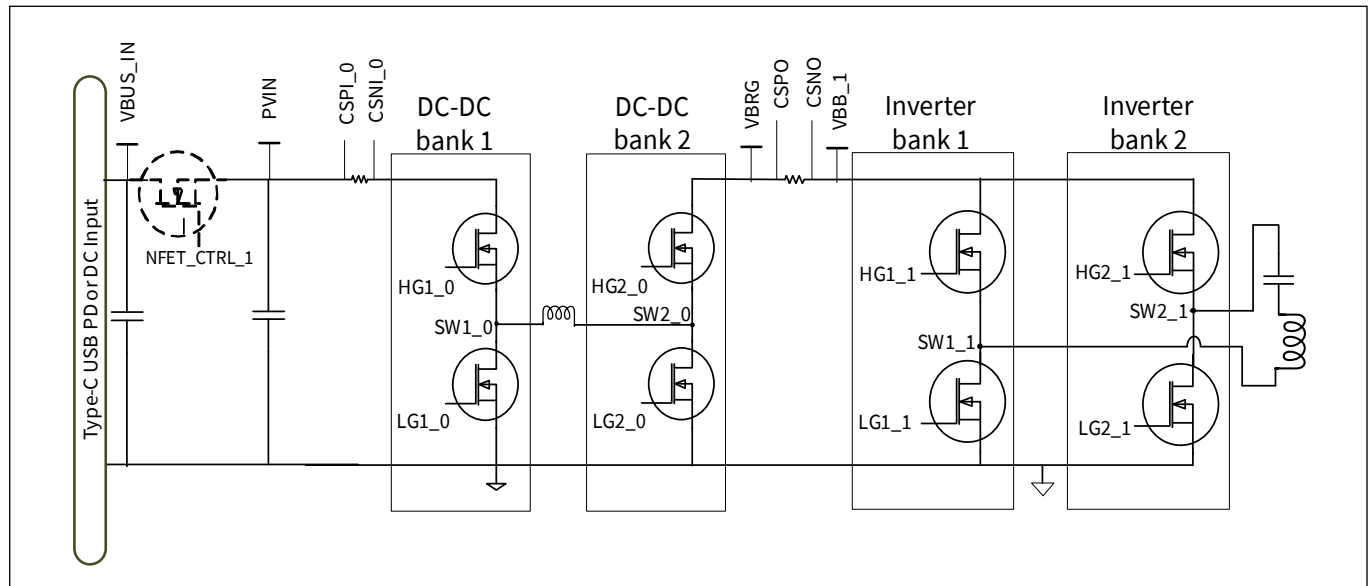

Figure 2 WLC1125 key pin mapping with buck-boost and inverter power supplies^[2]
- See Figure 2 for an overview of key WLC1125 pin mapping to power input, current sense and gate drivers of buck, and inverter power supplies.